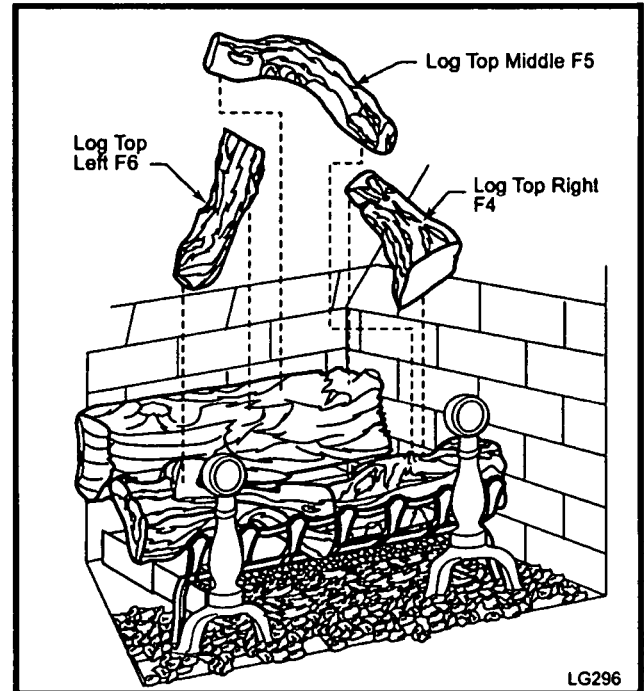

Fig. 46 Place middle logs.
9. Hold the log top right front to back with the narrower end toward the back. With your left hand, tilt the front left log slightly up and forward. With your right hand position the fat end of the top right log on the small shelf on the back of the front right log. Lower the two logs in place until the narrower end of the top right log comes in contact and rests on the top right side of the rear log. (Fig. 46)
10. Hold the log top left at an angle with the burned area toward the middle. Set the top left log above the front left log, matching the indentation on the bottom of the top left log with the protrusion on the front left log. Lay the back end of the top left log onto the rear log. (Fig. 46)
11. Hold the log top middle at an angle with the curve of the log going from right to left. Position the front end of the top middle log over the right front log, matching the protrusion on the right front log with the indentation on the bottom of the top middle log. Lay the back end of the middle log onto the rear log and swing the end of the log from right to left until the end of the top middle log comes in contact with the top left log. (Fig. 46)